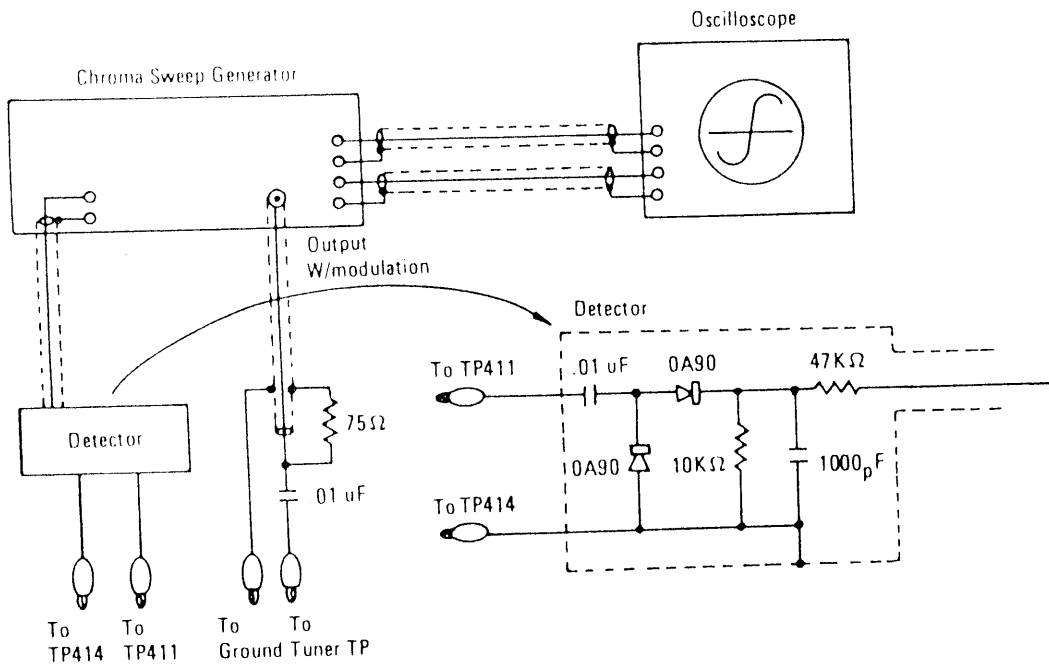

Fig. 8
A. PREPARATION STEP (See Fig. 8 and Table 4)